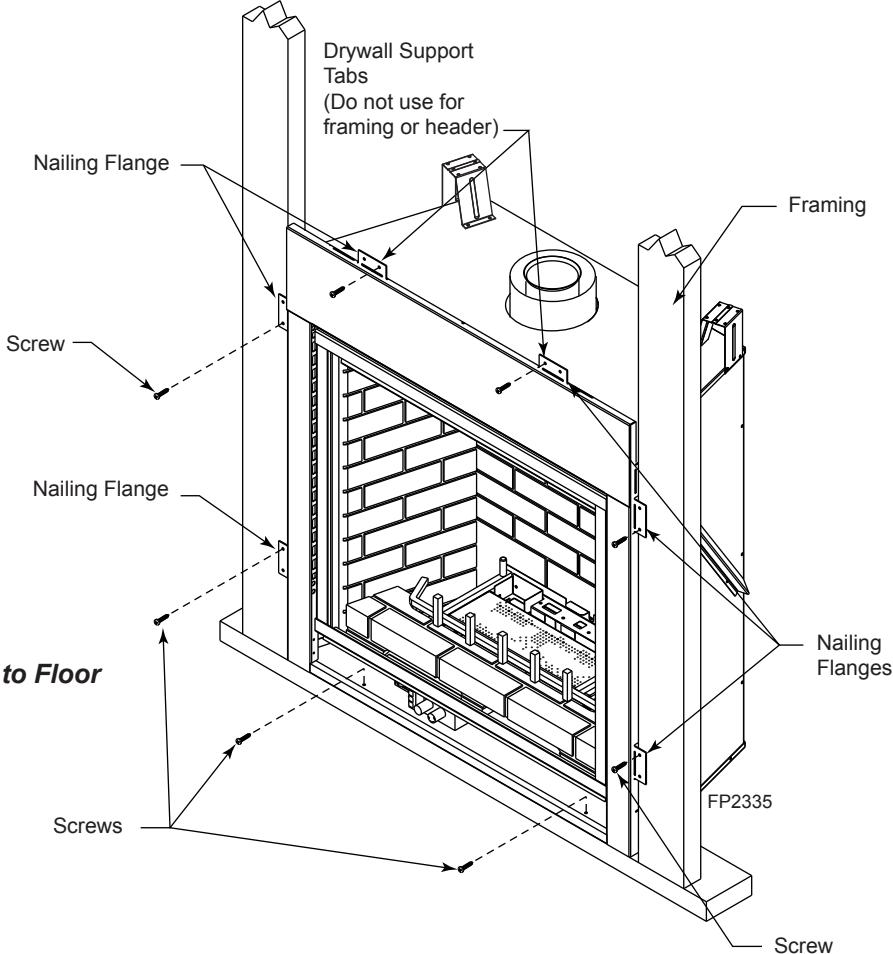

Figure 5 -
The fireplace must be secured to the floor and/or to framing studs as shown in *Figure 5*. Use two (2) wood screws or masonry/ concrete screws to secure fireplace to the floor. Use four (4) screws to attach fireplace to framing. The side nailing flanges are 1/2" or 5/8" to accommodate different wall thickness.